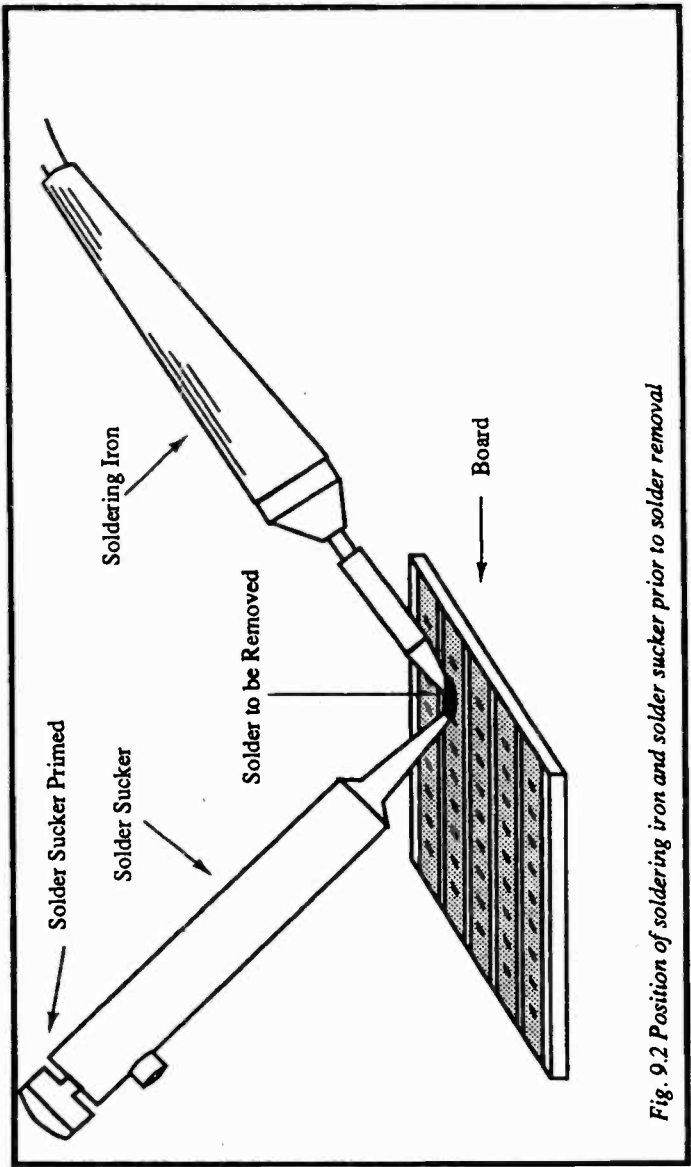

Fig. 9.2 Position of soldering iron and solder sucker prior to solder removal
- (iv) Hold the solder sucker on one side of the solder to be removed and the soldering iron at the other. Normally they should be at about 90° to each other and 45° to the board (Figure 9.2).